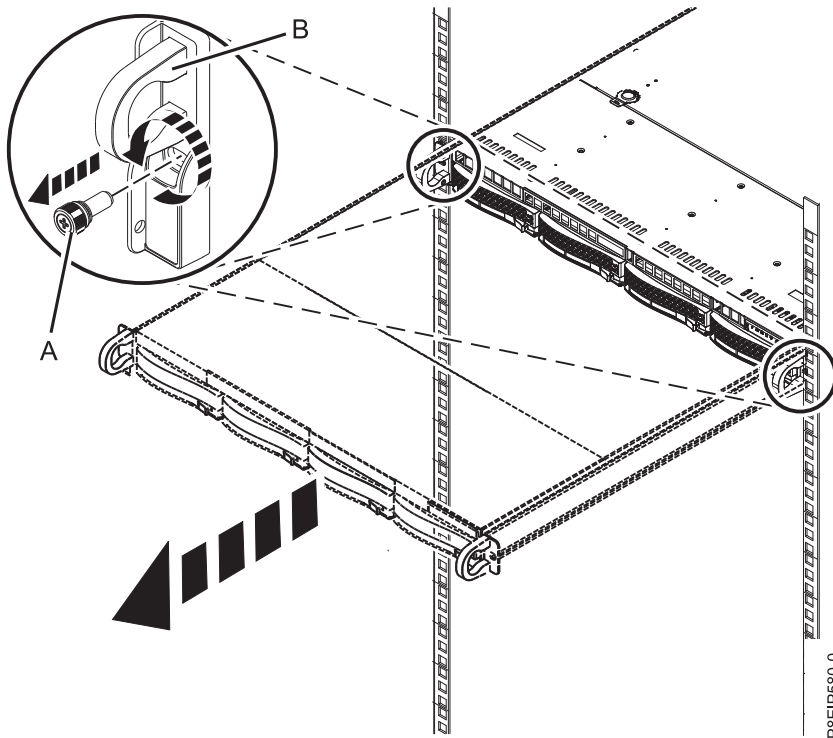

Figure 69. Removing the front screws and removing the system from the rack
2. Remove the front screws (A) that secure the system to the rack from both sides of the system as shown in Figure 69.